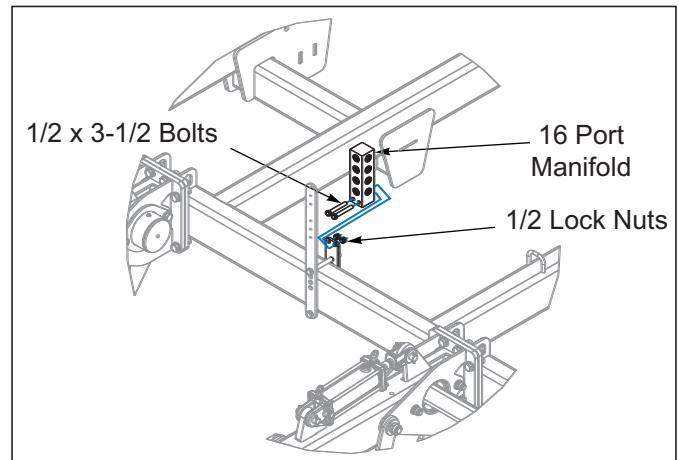

Figure 3-36: 16 Port Manifold Installation
10. Attach the 16 port manifold to rear tube of center frame using 1/2 x 3-1/2 bolt and 1/2 lock nuts See Figure 3-36.